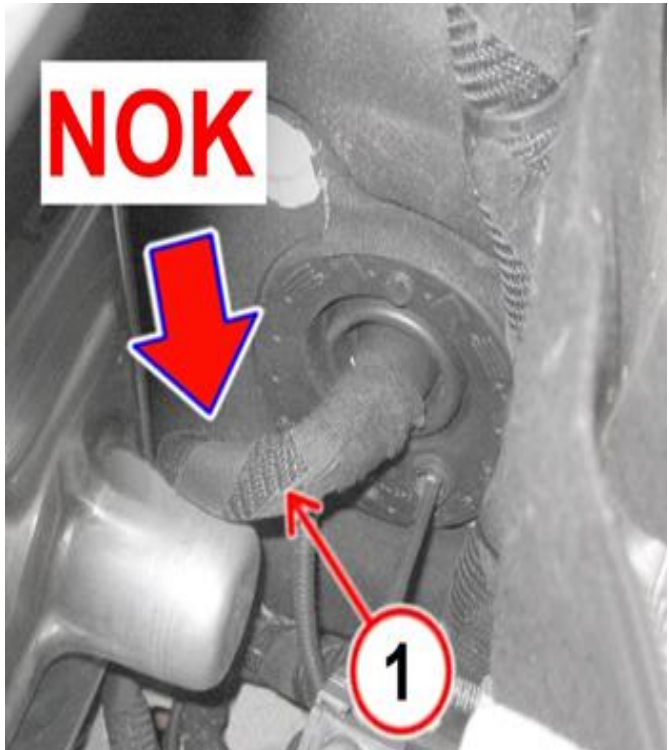

Figure 20 – Wiring Position NOT OK
3. If the wiring (1) from the bulkhead connector is not facing downwards, as shown (Figure 20), **the position is NOT conforming: vehicle NOK.**